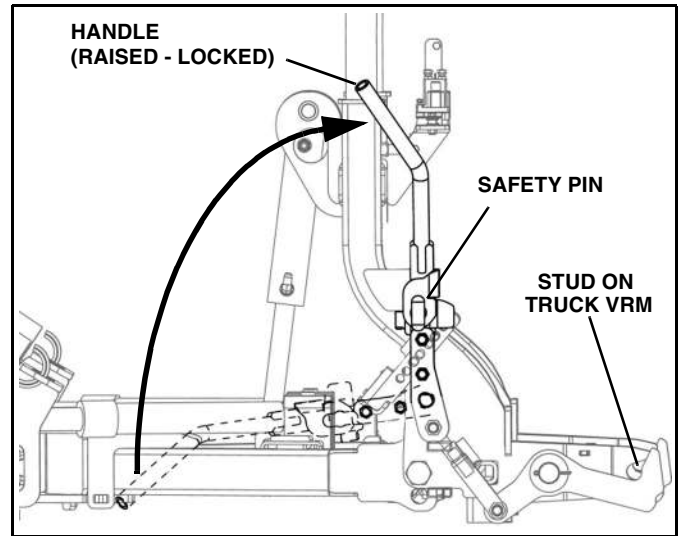

Figure 1-20
25. Pull up engagement handle to engage plow onto stud on VRM, ensuring that the safety pin is fully engaged. (See Figure 1-20).